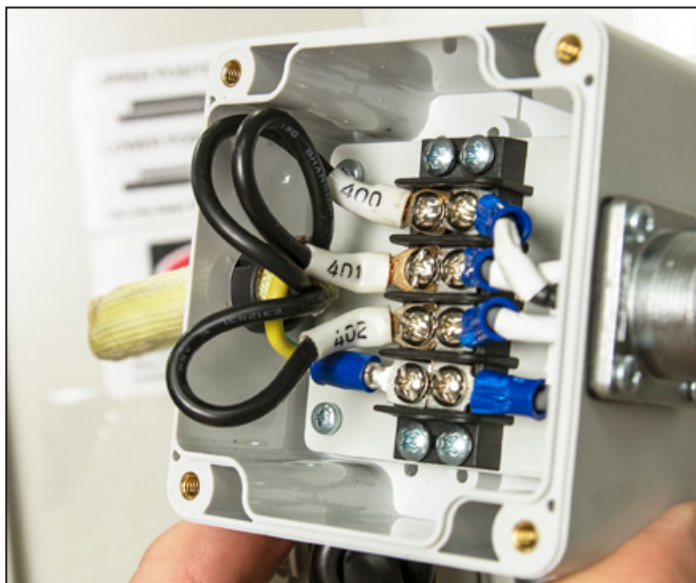

Figure 18
6. Connect the spade terminals from the VFD Power Cable to the Quick-Disconnect Junction Box as indicated in the table below (see **Figure 18**).